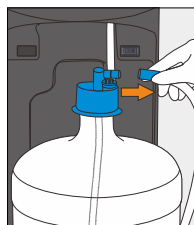
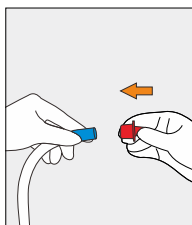

Figure 31
Figure 32
3. Open the replacement SmartFlo™ Water Cartridge kit and take red plug from kit. Disconnect the water line from the bottle adaptor (Figure 31) and add red plug to waterline (Figure 32)